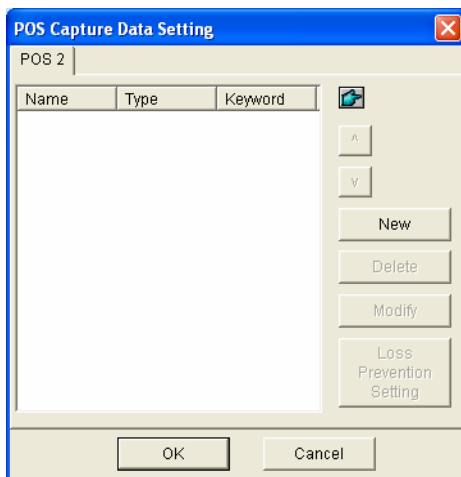

Figure 7-15 POS Capture Data Setting
2. In the POS Capture Data Setting dialog box (Figure 7-15), click the **Loss Prevention Setting** button. This dialog box appears.